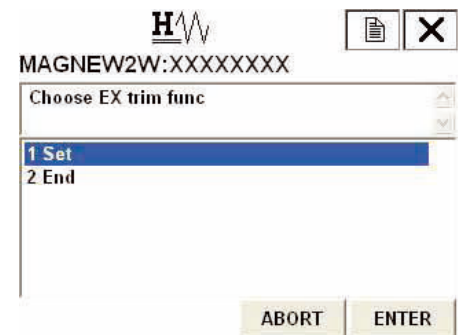

Figure 7-71
5. Figure 7-71 will appear. When executing the adjustment, choose “SET” and press F4 (ENTER).
6. A numerical value input display (Figure 7-72) will then appear. Resistance of 10ohm is in between the check pin. Therefore, when the excitation current is 3.5 mA, approx. 35 mV will be output. Measure this value, and input the value by the mV directly. Press F4 (ENTER). The converter will start adjusting to 3.5 mA automatically, and return back to the display as shown in Figure 7-71. Verify that the excitation current value is 3.5 mA, and terminate the adjustment.